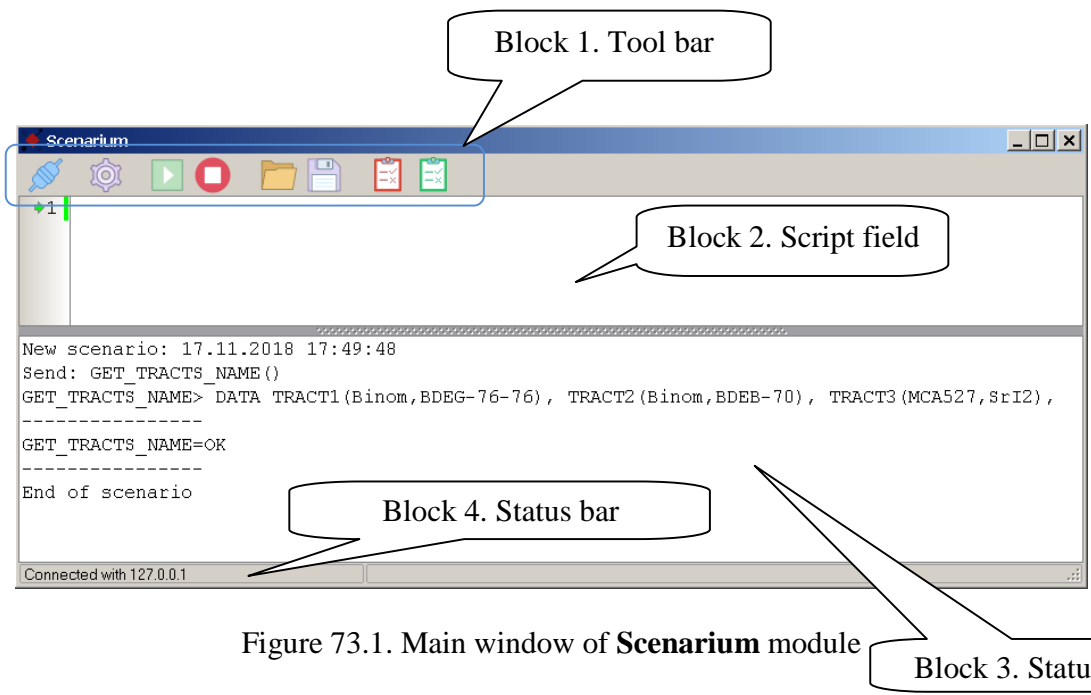

Figure 73.1. Main window of **Scenarium** module
When module is opened, the window will appear on the screen as shown in Fig. 73.1.
Module **Scenarium** is connected to the program **ASW2** via IP. At the start of the module directly from **ASW2**, the automated connection is made and the sign "*Connection with 127.0.0.1*" (see Fig. 73.1, block 4) appears. If connection is set up, the control buttons in the instruments panel will be color as shown in Fig. 73.1 (block 1). Otherwise several buttons will be grey color.
Fig 73.1 shows the outer views of the module **Scenarium**. In the upper part of the window the instruments panel is placed (see Fig. 73.3):
- **Scenarium execution start.** Pressing this button will start the module **Scenarium**, start the execution of the commands (script) sequence, specified in the field below the instruments panel (see Fig. 73.1, block 2).
- **Save scenarium file.** Call for the standard dialogue window to save to disc the current scenarium of displayed in scenarium field (see Fig 73.1, block 2).
The very bottom of the module **Scenarium** window has the state line where in the first field the information on the connection to server state is specified (see Fig. 73.1, block 4).